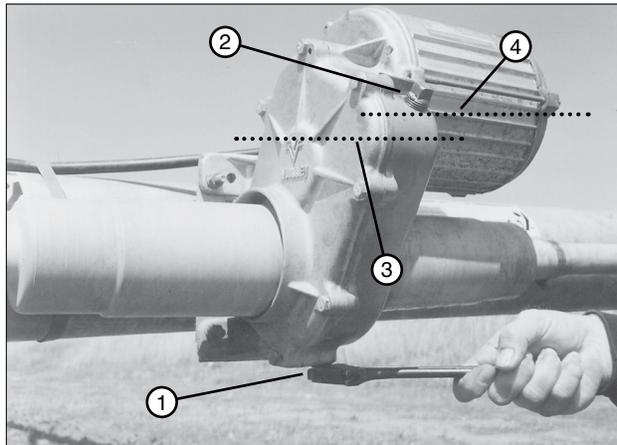

Figure 90-1 1. Drain Plug
1. Remove the drain plug and the fill plug. Drain the oil and install the drain plug. See Figure 90-1.
2. Fill the gearbox 1-7/8 in (48 mm) from the bottom of fill plug hole with Valley Gear Lube. The capacity of the gearbox is approximately 44 oz (1.3 liter). See Figure 90-1.